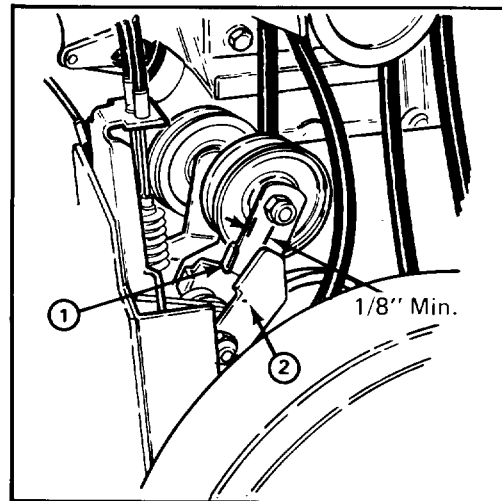

Figure 23
3. Check idler and brake adjustment. There should be a minimum clearance of 1/8" between tab on impeller idler arm and brake arm (Fig. 23). If there is less than 1/8" clearance, belt must be replaced.